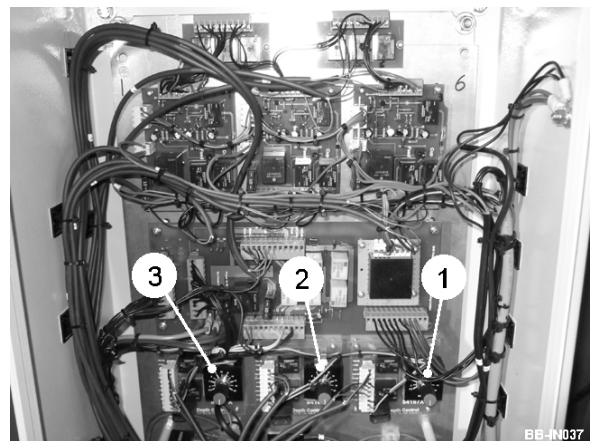

Fig 22
A timer is built into each depth control circuit which is designed to provide a time delay between activation of the 'up' sensor and actuation of the hydraulic control valve. The time delay can be adjusted by turning the relevant dial inside the junction box, LH bed (item 1, fig 22), centre bed (item 2, fig 22) or RH bed (item 3, fig 22). Normally a 3 second delay smoothes out any surface irregularities allowing the opener depth ram to gradually change the opener depth according to changes in bed height.